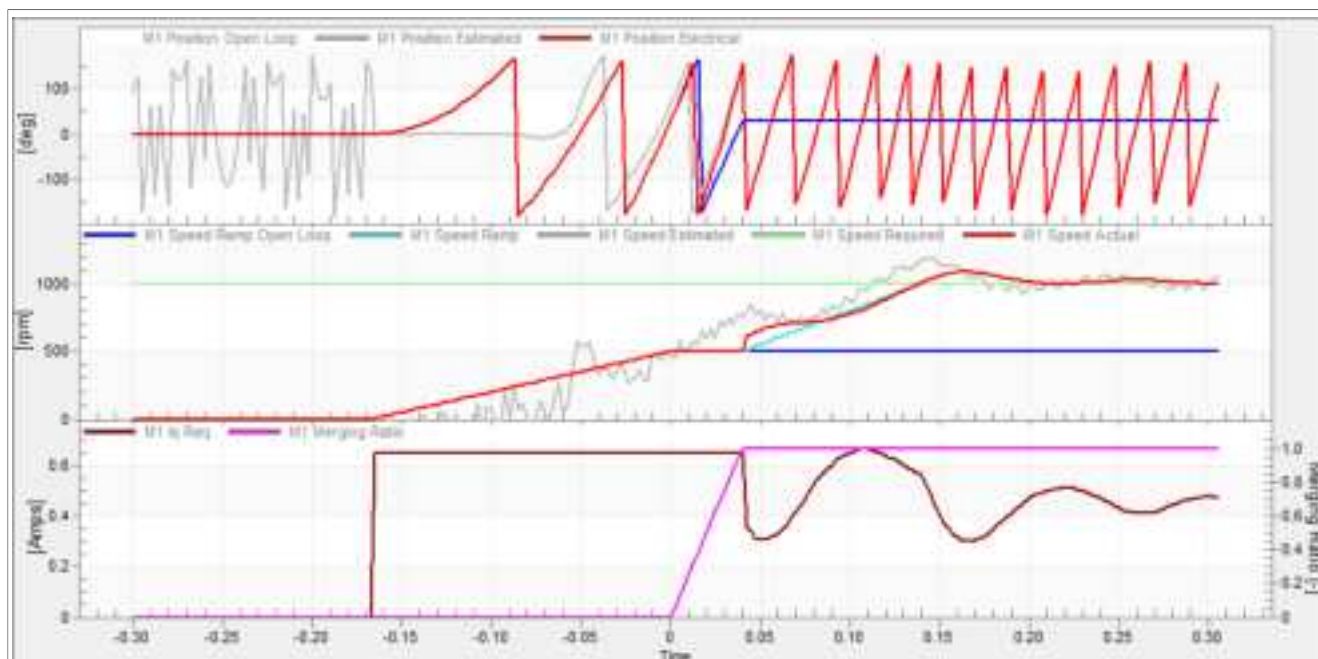

Figure 32. Motor startup
1. The startup process can be tuned by a set of parameters located in the "Sensorless" tab. Two of them (ramp increment and current) are accessible in both tuning modes. The startup tuning can be processed in all control modes besides the scalar control. Setting the optimal values results in a proper motor startup. An example startup state of low-dynamic drives (fans, pumps) is shown in Figure 32.